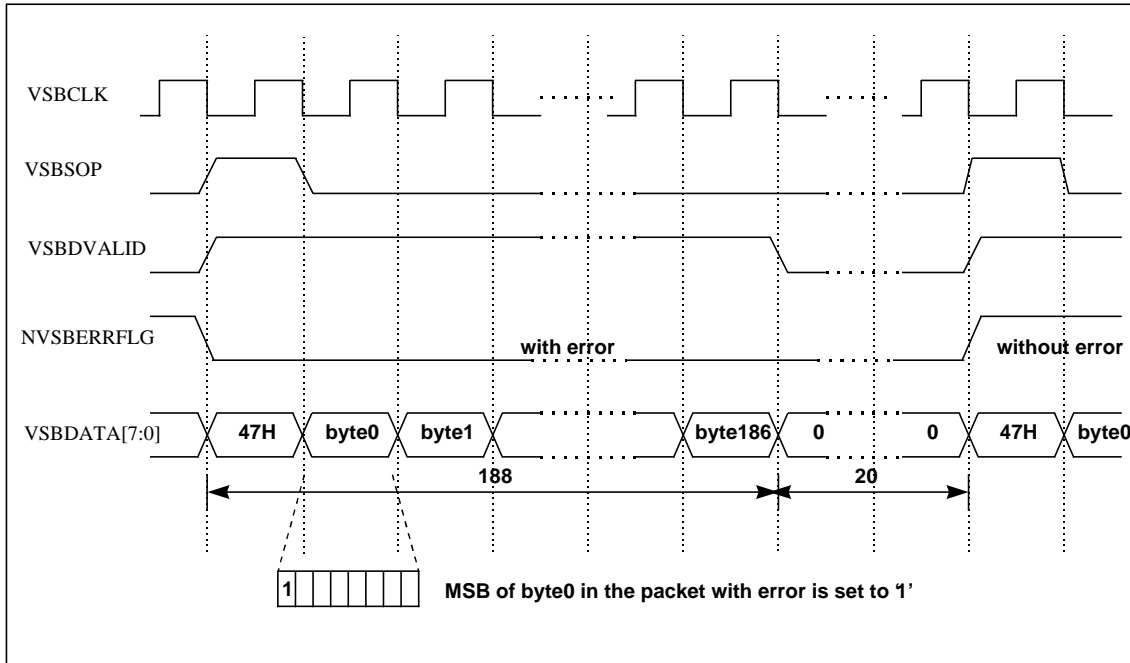

Figure 6.6.8 I/F to Transport Demultiplexer when Register64[7:0] is set to Default Value
- 5) the VSBDVALID signal is not suppressed during VSBDVALID=‘0’ interval. See Fig. 6.6.8.